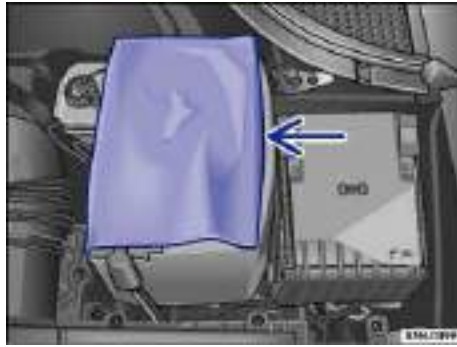

Fig. 170 In the engine compartment: Open the sleeve covering of the vehicle battery.
- *With a soft cover* ⇒ fig. 170: Open the sleeve cover to the side.